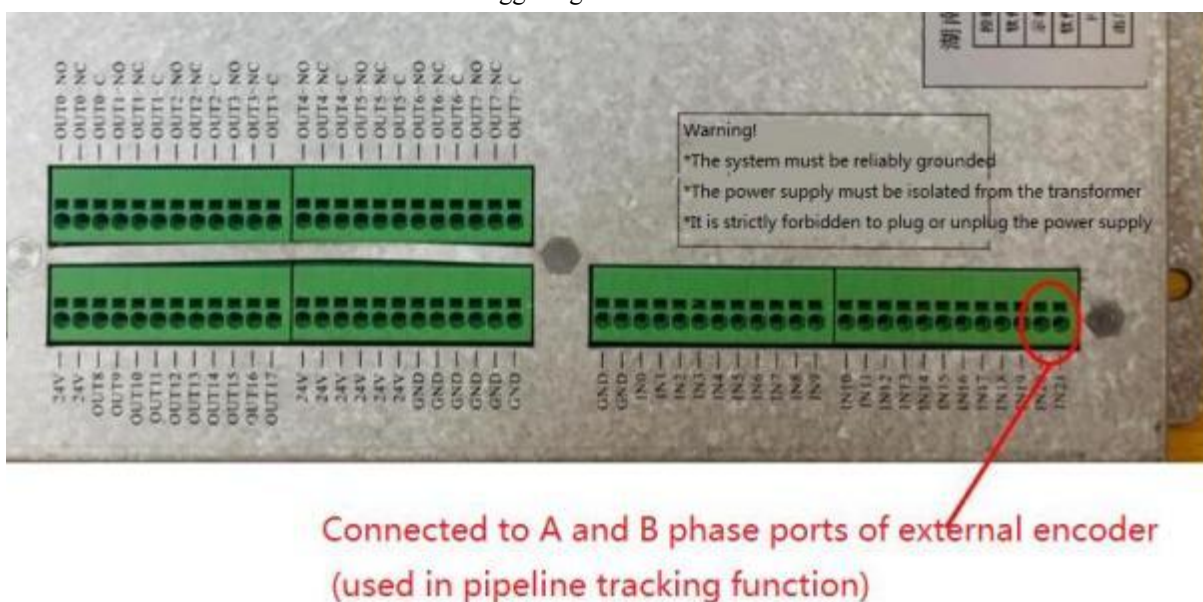

Fig. 14. 1 System Connected to External Encoder A and B Ports
- Pipeline: install the encoder or know its running speed. When installing the encoder, the last two channels of 22 optocoupler isolated input ports are used to connect the A and B phase ports of the external encoder, as shown in Figure 14. 1.